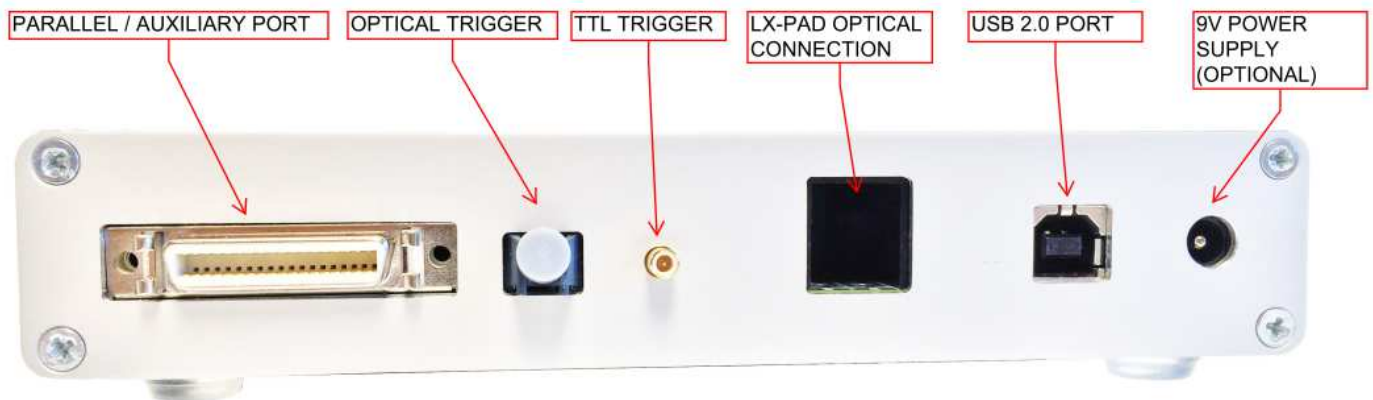

Fig2: Back of the Converter CON-004
- 3) Connect the fiberoptic cable to the Converter box with WHITE dot facing up. See Fig 1 and Fig 2. The connector size is 14mm x 12mm x 42mm, and should fit through any standard MRI control room PEN opening.